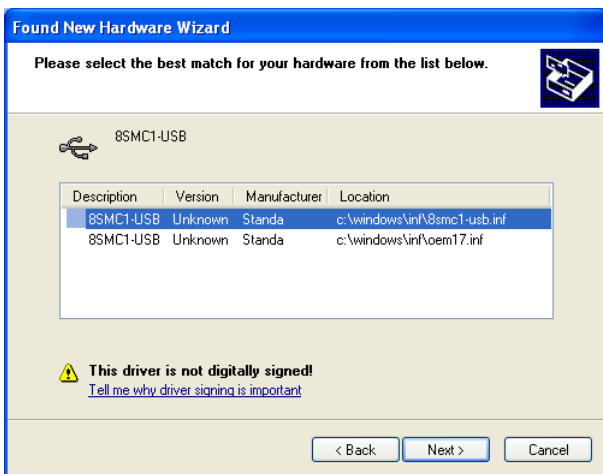

Figure 8. Hardware wizard 3rd screen
- If other 8SMC1-USBhF controllers were installed on computer earlier, screen Figure 8 may appear. Choose 8SMC1-USB.inf and press “Next” button.